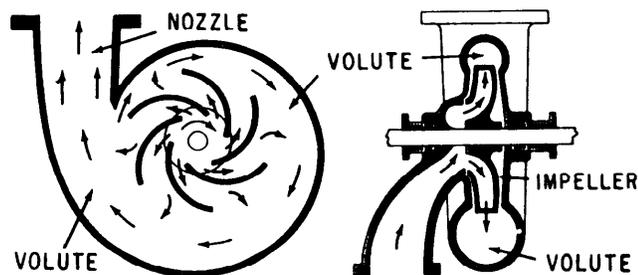

Figure 5-2.—Simple volute pump.
**VOLUTE PUMP.**—In the volute pump, shown in figure 5-2, the impeller discharges into a volute (a gradually widening spiral channel in the pump casing). As the liquid passes through the volute and into the discharge nozzle, a great part of its kinetic energy is converted into potential energy.